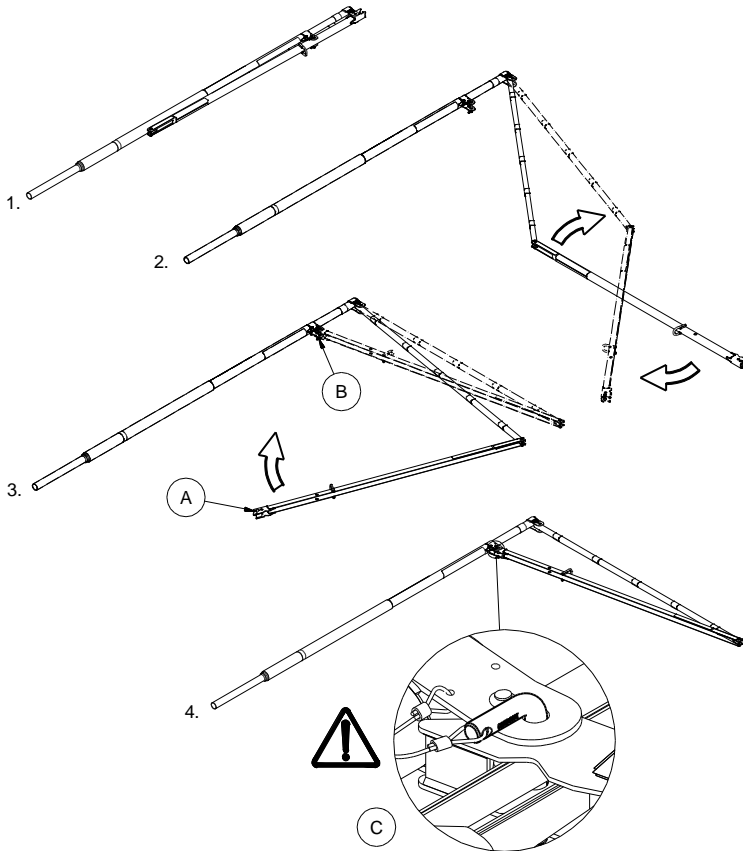

Figure 26. Assembly process of the SkyReach Anchor
7.1 Mount the SkyReach Anchor from the folded position with four easy steps, please see Figure 26 for illustration: